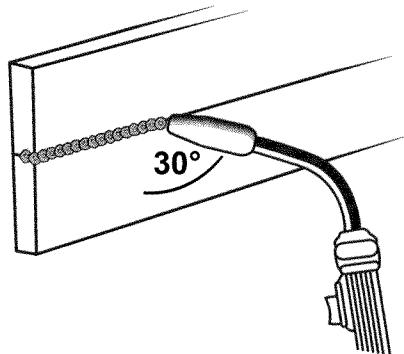

Figure 15. Horizontal Position
2. The HORIZONTAL POSITION (Figure 15) is next in difficulty level. It is performed very much the same as the flat weld except that angle B (see HOLDING THE TORCH - p.20) is such that the wire, and therefore the arc